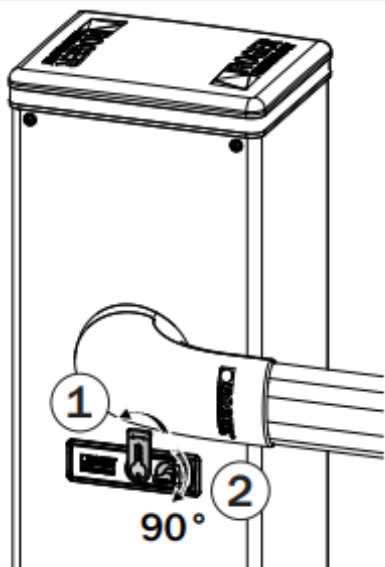

FIG. 1
- Fasten the 4 anchor ties to the plate (fig. 1). N.B.: The bottom nut must be tightened to the end of the thread on the screw so that the length Z is at least 40mm.
- Fasten the 4 anchors ties to the plate (fig. 1). N.B.: The bottom nut must be tightened to the end of the thread on the screw so that the length Z is at least 40mm.